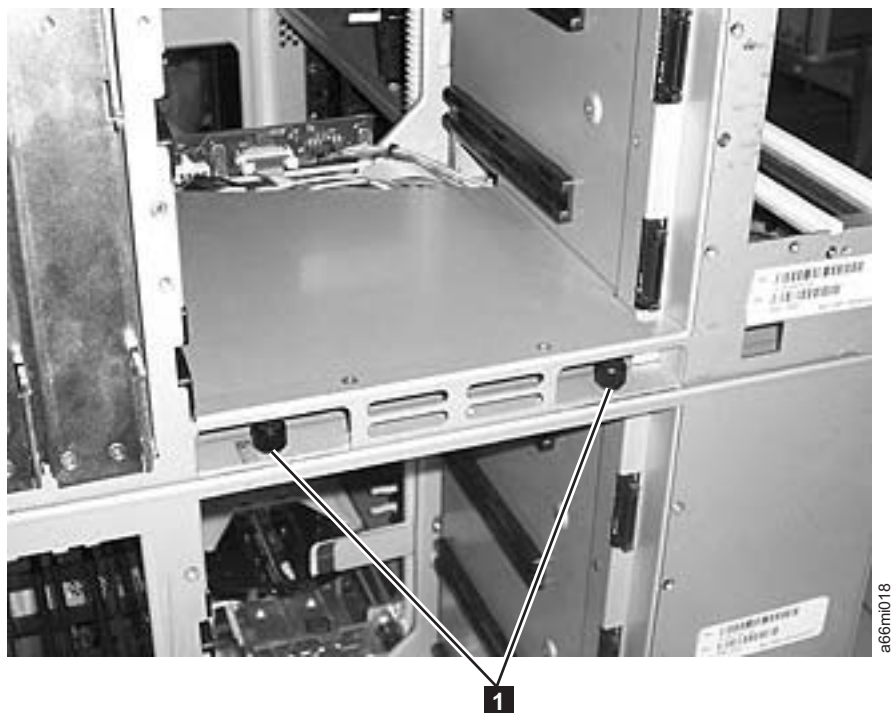

Figure 8-3. Control module rear thumb screws
7. Loosen the rear thumb screws (**1** in Figure 8-3) securing the control module to the lower expansion module.